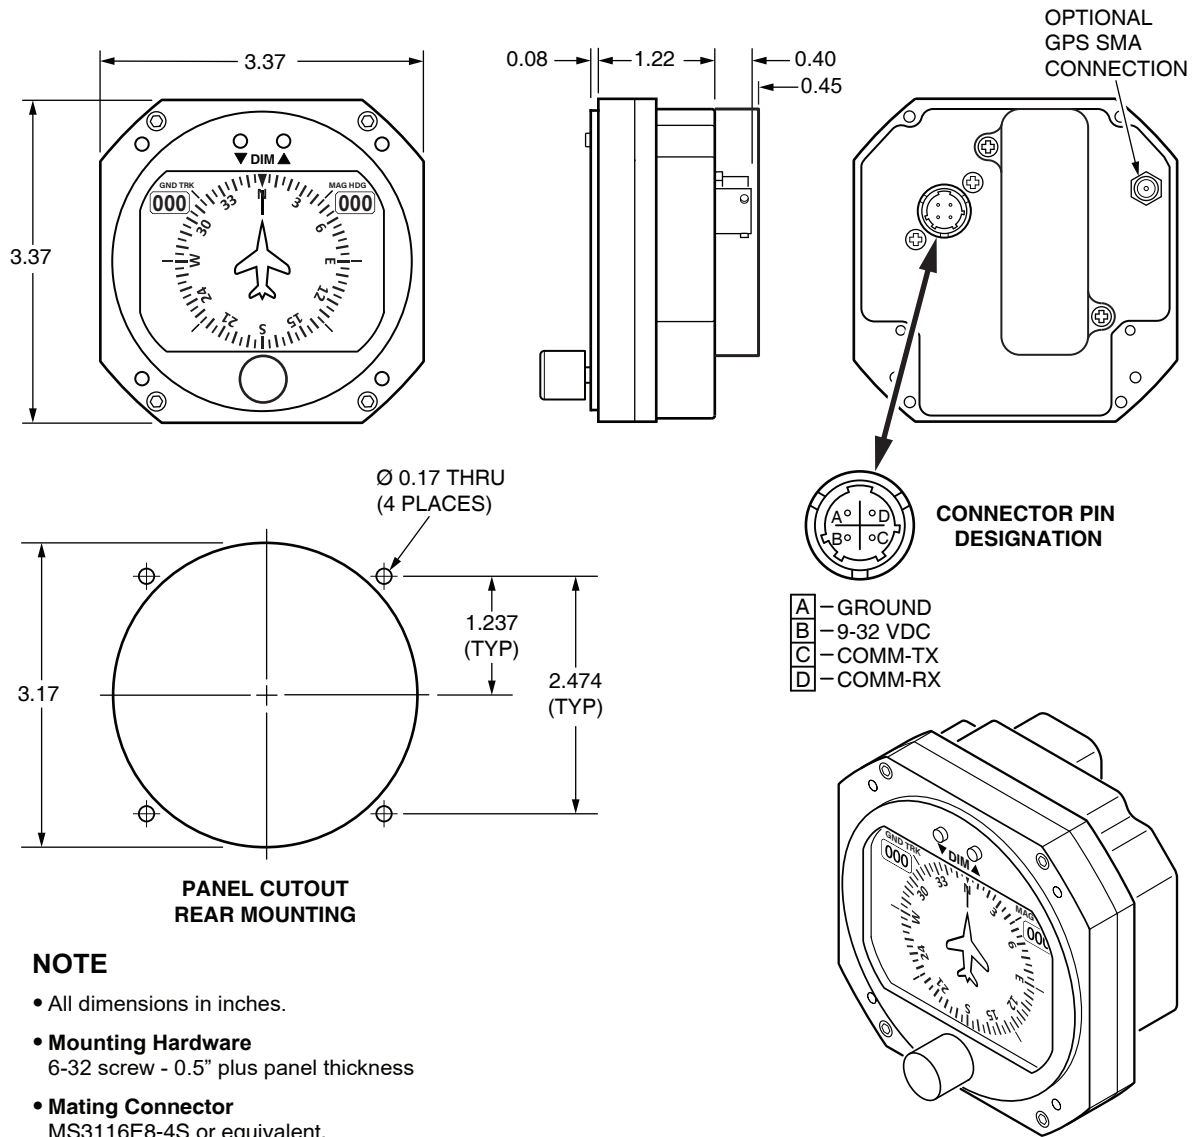

Figure 1.1, General Dimensions
DIMENSIONS/PANEL CUTOUT	SEE FIGURE 1.1
1. The **RCA1510** uses standard panel cutouts. Refer to Figure 1.1 "General Dimensions" for instrument and cutout dimensions.
*Connect the RS232 GPS output signal to **PIN D** configured for an aviation application at a baud rate of 9600. (See figure 1.1). Do not apply power to COMM pins as damage may occur.
4. Insert instrument into panel cutout (See Figure 1.1) and secure with supplied screws. Use 6-32 *UNC-2b* screws or equivalent. Screw length should not exceed .5 inches plus bezel and panel thickness. Do not tighten.